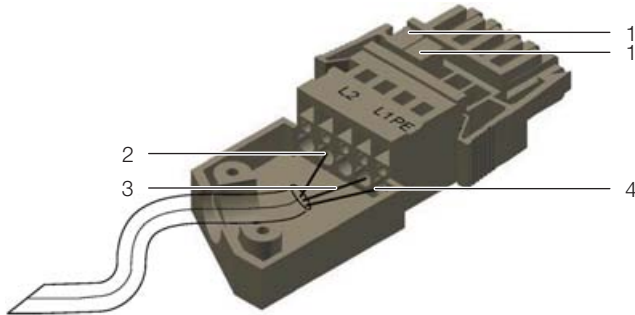

Fig. 39: Schematic diagram of the connector with strain relief housing
- Bypass the phase connections on the connector using the two included bridges. Insert the bridges as shown below (Fig. 39, item 1).